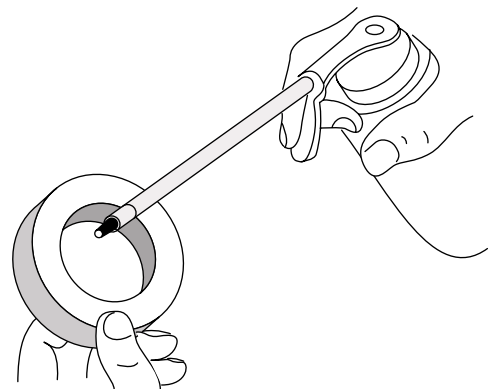

Fig. 36
4. Apply enough clean SAE 30 oil to lightly coat the filter (Fig. 36).